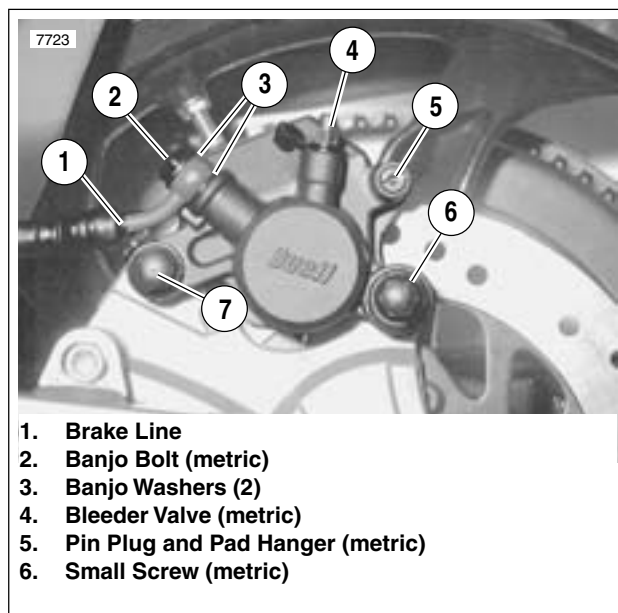
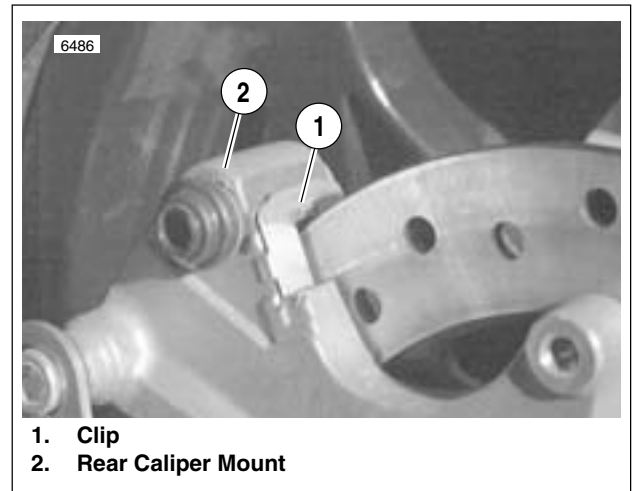

Figure 2-47. Rear Brake Caliper (Typical)
Figure 2-48. Caliper Mount Clip
2. See Figure 2-47. Remove banjo bolt (2) (metric) and two banjo washers (3) to disconnect brake line (1) from caliper. Discard banjo washers.
3. Remove small screw (6) (metric) and large screw (7) (metric) to detach caliper from mount.
4. See Figure 2-48. Remove clip (1) from rear caliper mount (2) if necessary.
1. See Figure 2-47. Remove pin plug and pad hanger (5) (metric) to free brake pads.
2. See Figure 2-48. Remove clip (1) from caliper body.
- See Figure 2-48. Install caliper mount clip (1) if removed.
- See Figure 2-47. Install caliper assembly on caliper mount. Brake pad surfaces must face rear brake rotor.
- Install large caliper screw (7) (metric). Tighten to 18-22 ft-lbs (24-30 Nm)
- Install small caliper screw (6) (metric). Tighten to 15-18 ft-lbs (20-24 Nm).